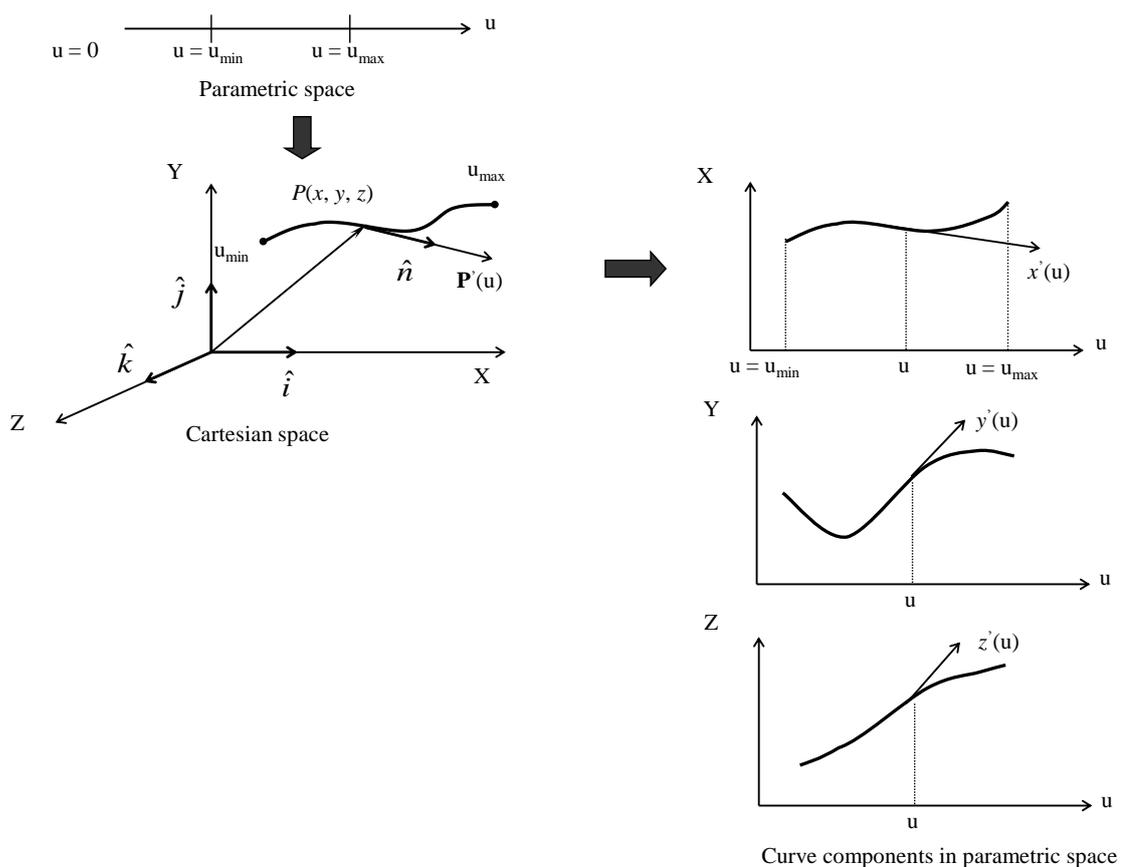

Figure 2. Parametric representation of a three-dimensional curve
Equation (3) implies that the coordinates of a point on the curve are the components of its position vector. It is a one-to-one mapping from the parametric space (Euclidean space E^1 in u values) to the Cartesian space (E^3 in x, y, z values), as shown in Figure 2.
Give the coordinates of two end points of a line. Write a program in Matlab to draw the x , y , z components in parametric space (hint: use Equation (8)) and the isometric view of this line in Cartesian space (hint: use the transformation matrix discussed in the previous lecture, or use the Matlab built-in command for isometric view), as in Figure 2. Show your Matlab program too. ◇